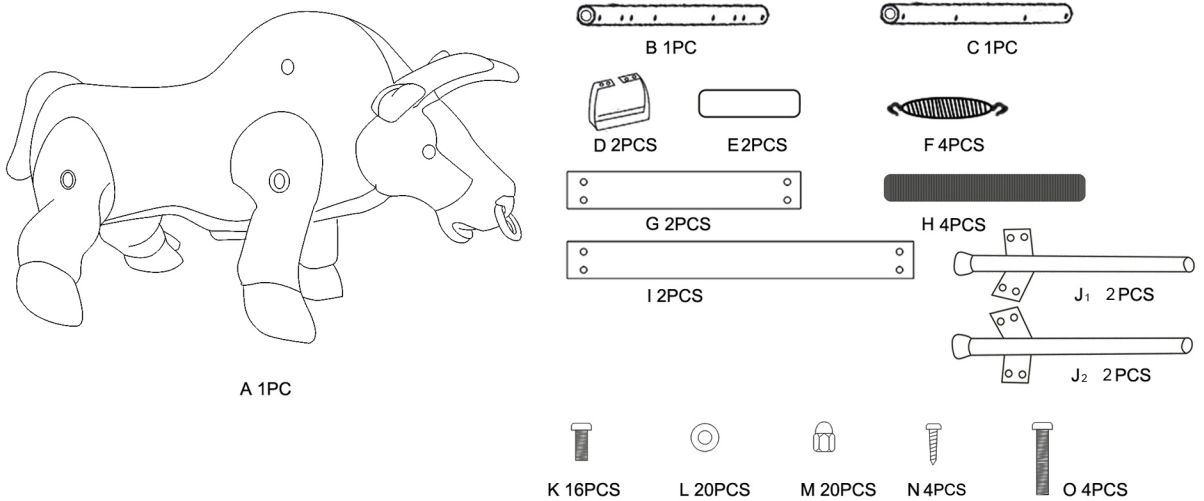

Figure 1
1. With high side of attached Bushing facing towards the center of Cattle Body, slide Body Tubes into front and rear holes on Cattle Body. See Figure 1 Inset A.
2. Attach a Stirrup (D) to ends of front Body Tube with large flange facing away from Horse Body. See Figure 1 Inset B.
3. Secure each Bushing with Screw (N) and Lockwasher (L). See Figure 1.
4. Center Front and Rear Body Tubes and use Screws (N) on each side of tube at hole closest to Cattle Body.